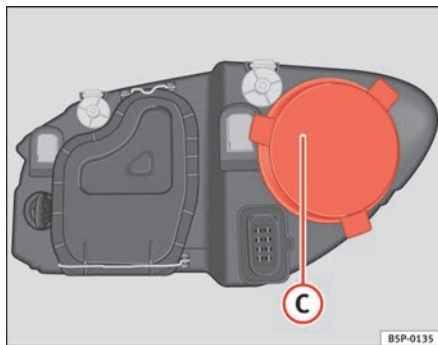

Fig. 166 Main beam headlights
- Remove the cover ⇒ fig. 166 ③ by pulling on this.